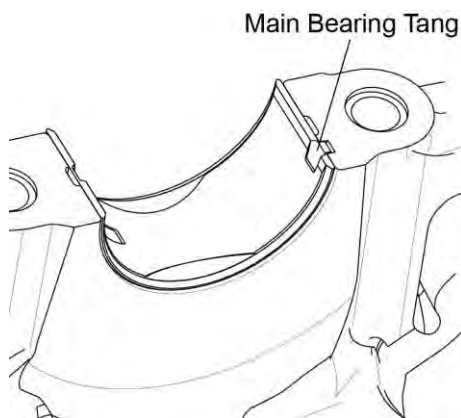

Figure 62
- A.** Install the center and rear crankshaft bearings. Make sure the tangs are seated in the lock slots (Figures 62 and 63).